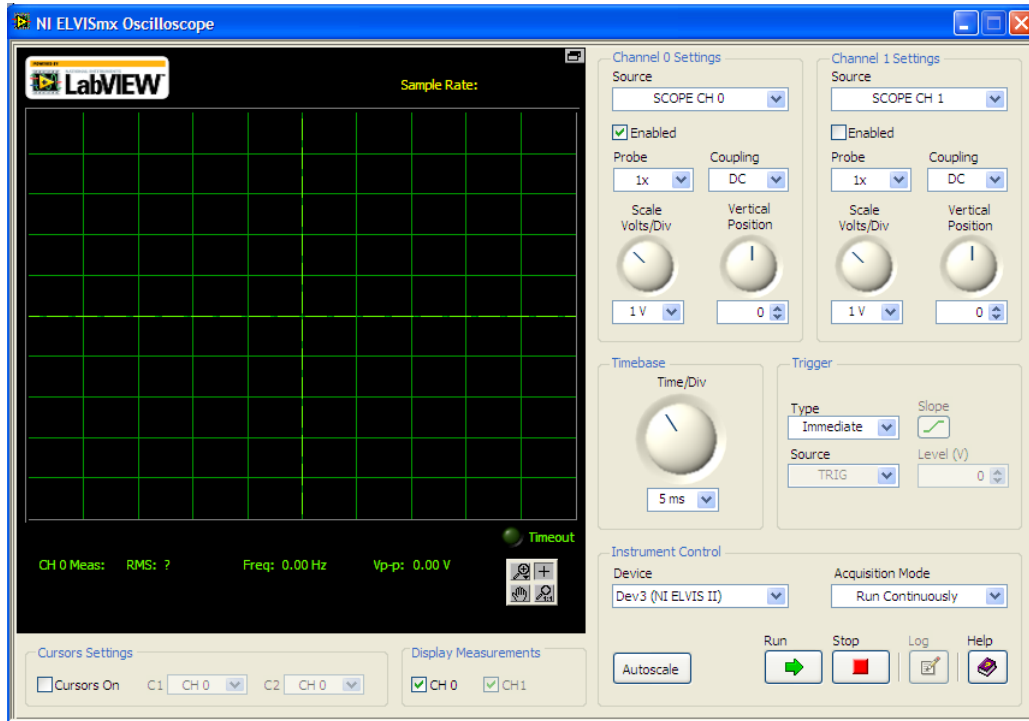

Fig. 14. NI Elvis Oscilloscope interface.
7. From NI Elvis instrument launcher, click on “Scope.” The oscilloscope SFP is similar to most oscilloscopes, but NI Elvis oscilloscope can automatically connect to variety of inputs. The initial oscilloscope SFP without any signals should appear as shown in Fig. 14.